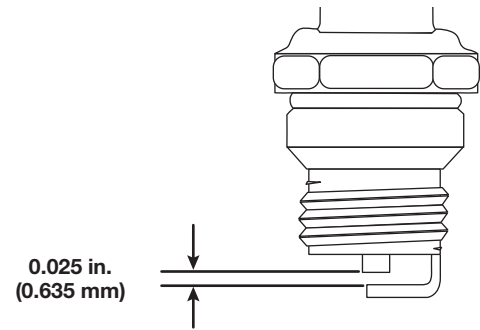

Fig. 21
4. Use a feeler gauge to set the air gap at **0.025 in. (0.635 mm)** (Fig. 21).